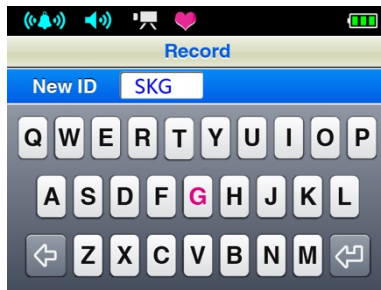

Figure 13. Input ID interface
- a In the record menu interface, move the choice bar to "Record" item, then press left/right button to choose on/off. When displaying "on", press menu button enter the input ID interface as Figure 13. When recording, choose "off", and press menu button to stop recording.